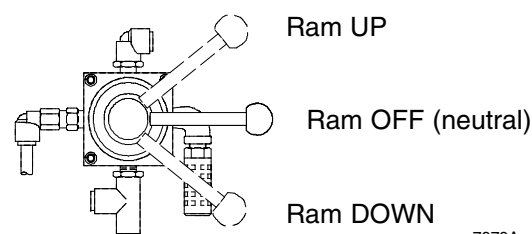

Fig. 3
The ram hand valve on the ram air control has 3 positions [Fig. 3 (4-regulator version shown)]:
- b. Move the hand valve lever to the UP position (Fig. 3 on page 21). At the same time, carefully equalize the pressure in the pail by using the Follower Blow-off Valve Regulator to cycle the follower blow-off valve open and closed.
3. Move the ram hand valve lever (Fig. 3 on page 21) to the OFF position. Shut off the air supply to the ram and pump.
- b. Moving the ram hand valve lever (Fig. 3 on page 21) to the OFF position.